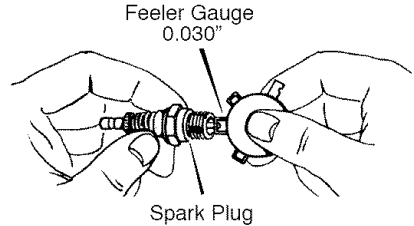

Figure 25
2. Check the **spark plug** gap with a **feeler gauge** and reset gap to 0.30" if necessary. See Figure 25.